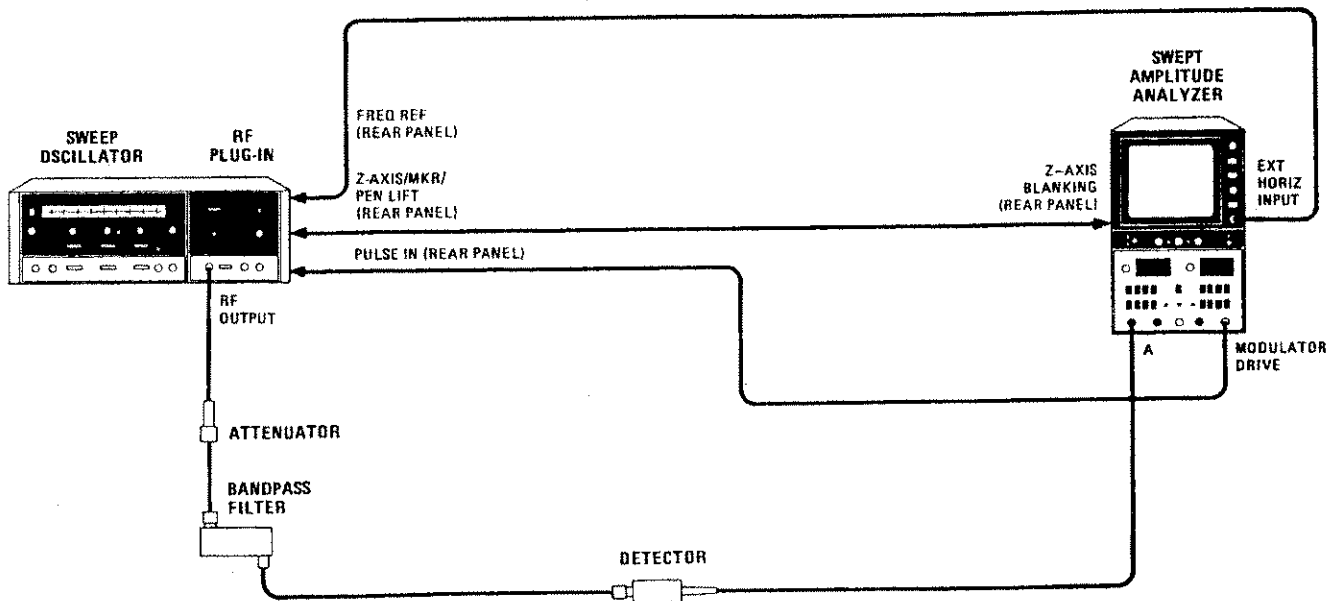

Figure 4-11. Harmonic Spurious Signals Test Setup
- a. Connect equipment as shown in Figure 4-11. Press 8620C LINE pushbutton to ON. Allow 30 minutes warmup time.